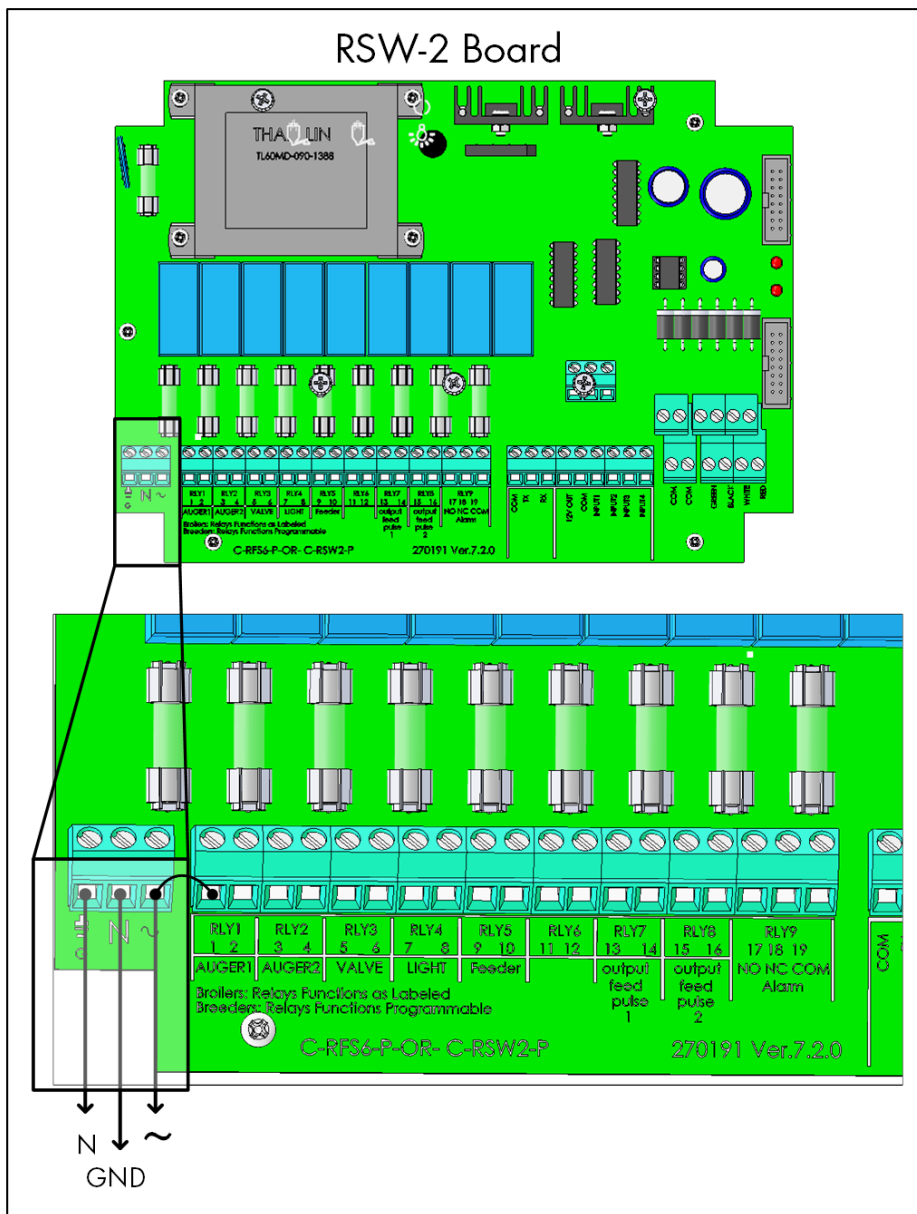

Figure 10: Internal Power Supply Wiring Diagram
- The RSW-2 can power up to six (6) RSLC units internally (Figure 10).